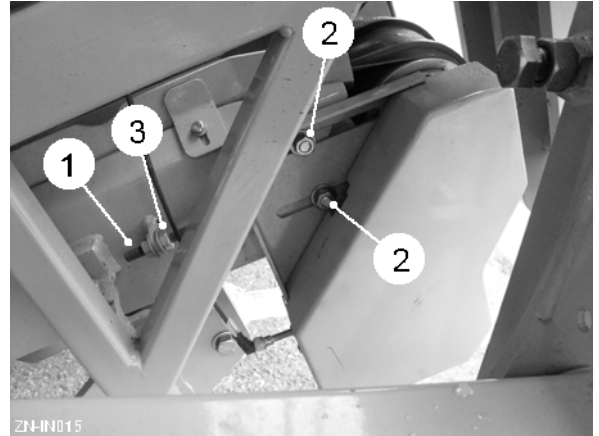

Fig 24
The trough belts are tensioned by the setscrews (item 1, fig 24). To adjust, loosen the roller plate mounting bolts (item 2, fig 24) and reposition the locknuts (item 3, fig 24).